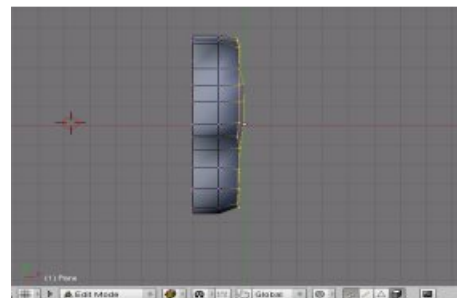

Fig 3: Applying smooth to the selection.
**5.**Select the outer row of vertices and hit Smooth a few times. (Fig 3)